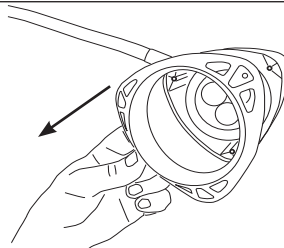

Figure 2. Remove Bezel
3. Pull bezel from lighthouse (figure 2).